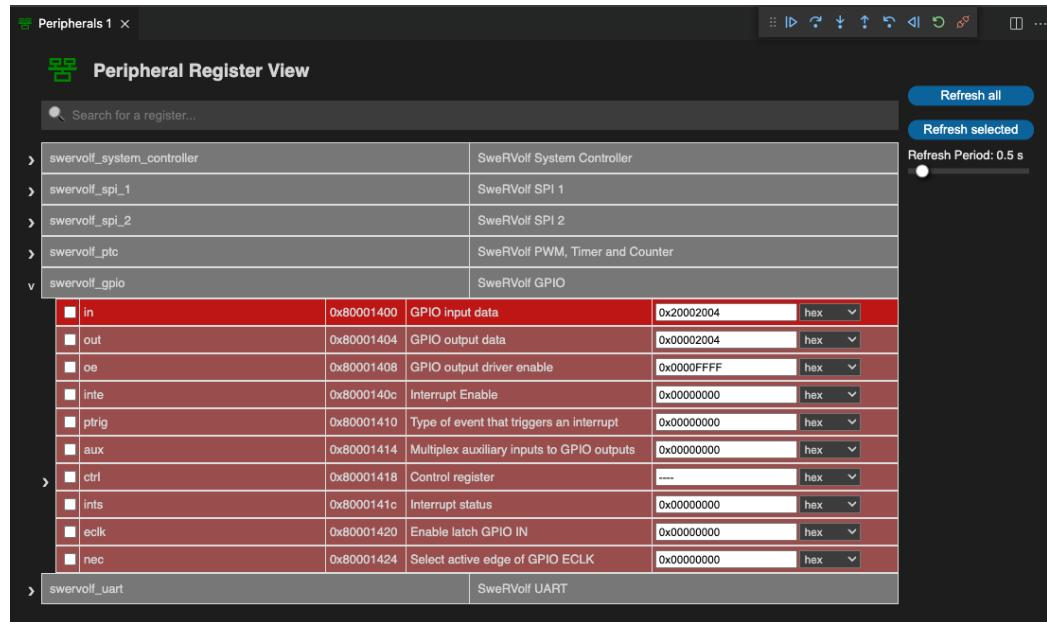

Figure 48: Catapult Studio Peripheral Registers View
- c. In the Peripheral Registers View, open the GPIO section. GPIO stands for “General Purpose Input / Output”. This is the section of memory where the switch inputs are mapped (Figure 48).